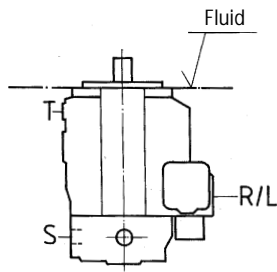

Fig. 1
a) If the minimum fluid level is level with or above the pump mounting flange: Ports »R/L«, »T« and »S« are open (see fig. 1).